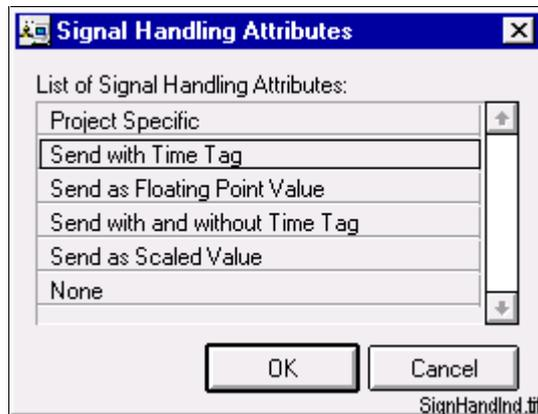

Figure 16. The Signal Handling Attribute dialog
- 6 Click the button on the right side of the signal-handling field and the Signal Handling Attributes dialog appears, see Figure 16. Select one or several signal handling attributes from the list of attributes. To select several attributes, hold Ctrl-key down while clicking attributes.